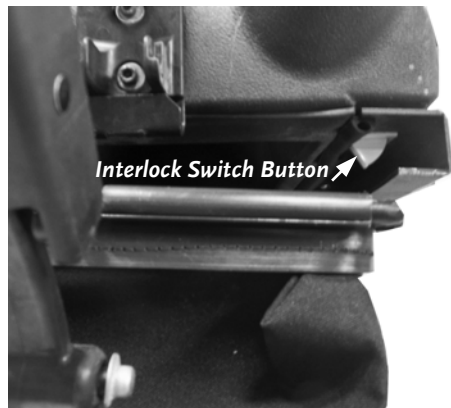

Figure 8c
**NOTE:** Also, make sure that the Bag Presence Interlock Switch is engaged by the Debris Bag frame (button pushed in) or the Engine will not start (**Figure 8c**).